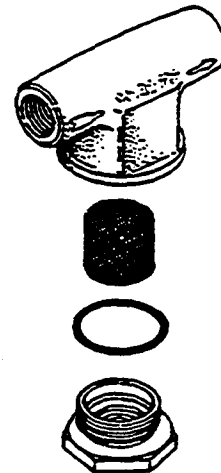

Figure 4-2. Cleaning Strainer
2. Unscrew the filter from the bottom of the strainer which is located in back of the steamer. Refer to figure 4-2.
3. Remove the filter screen and wash it with clean water. Refer to figure 4-2.